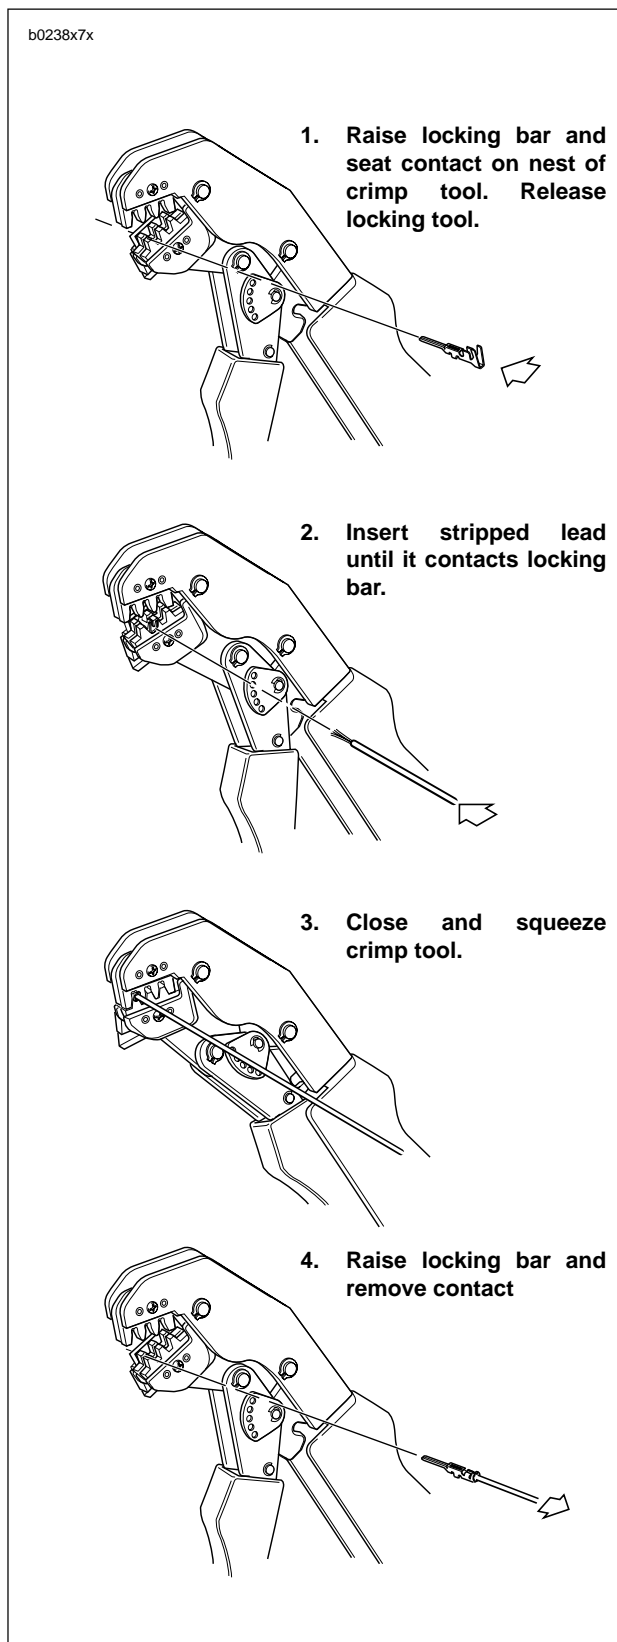

Figure 7-83. Amp Multilock Crimping Procedure
1. See Figure 7-83. Squeeze the handles to cycle the AMP TERMINAL CRIMP TOOL (Part No. HD-41609) to the fully open position.